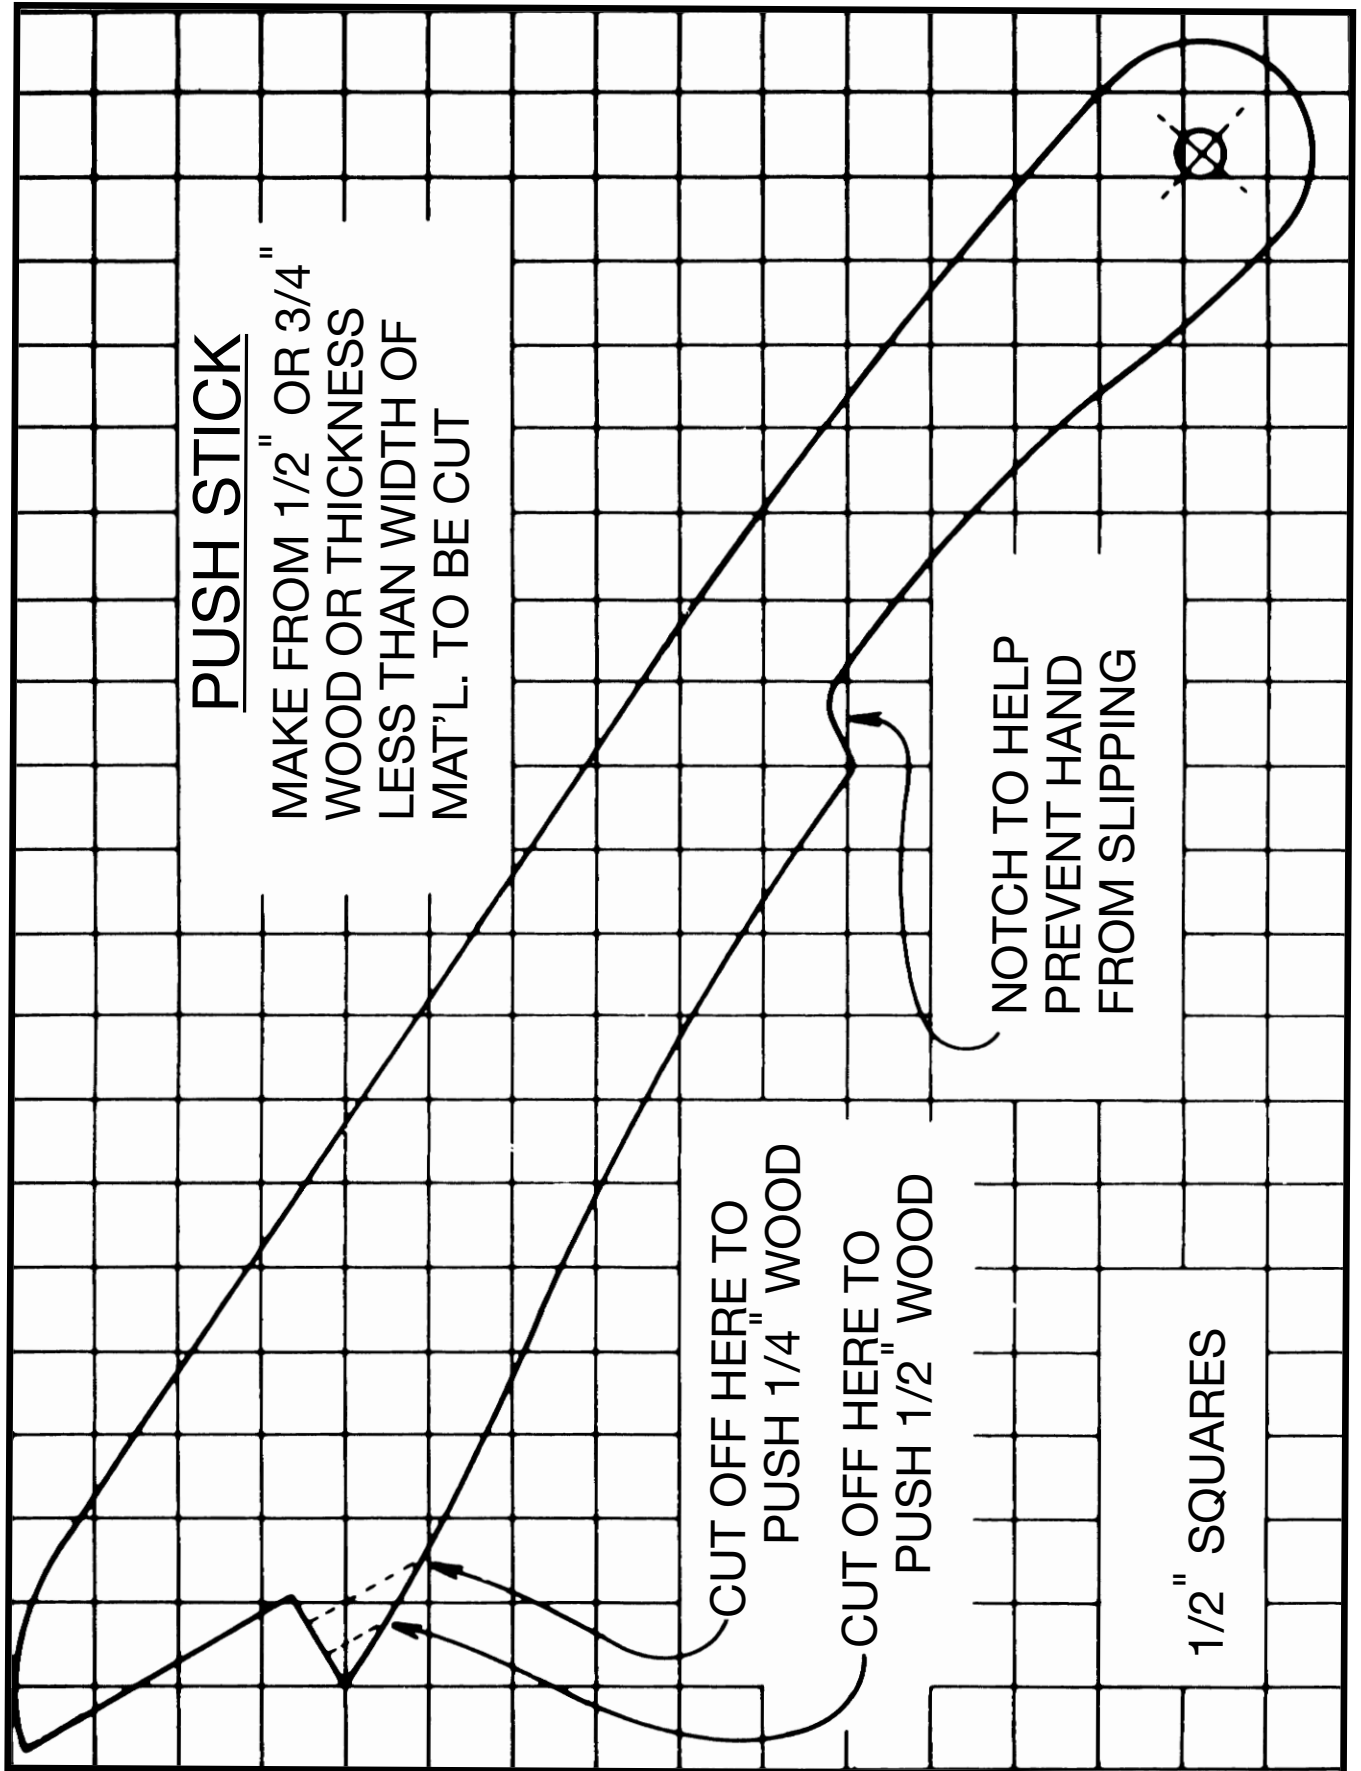

Fig. 78
**▲ WARNING** When ripping work less than 4 inches wide, a push stick should be used to complete the feed and could easily be made from scrap material by following the pattern shown in Fig. 78.